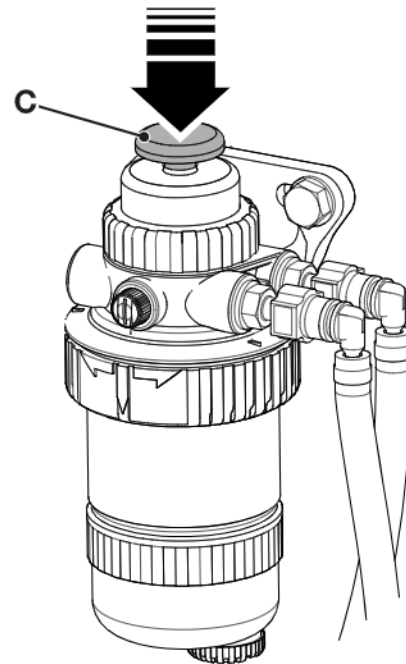

Fig 112.
- 2 Operate the fuel lift pump priming lever **C** until air free fuel exits from the fuel line. ⇒ Fig 112. (□ 146).